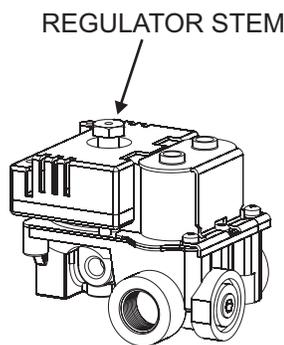

Figure 46
3. Unscrew regulator stem from gas valve and reverse regulator stem to the propane gas position and screw stem back into gas valve. The propane gas arrow will be pointing at the gas valve in the propane gas position. See Figure 46.
4. Open four (4) door latches in order to pivot open the front door.